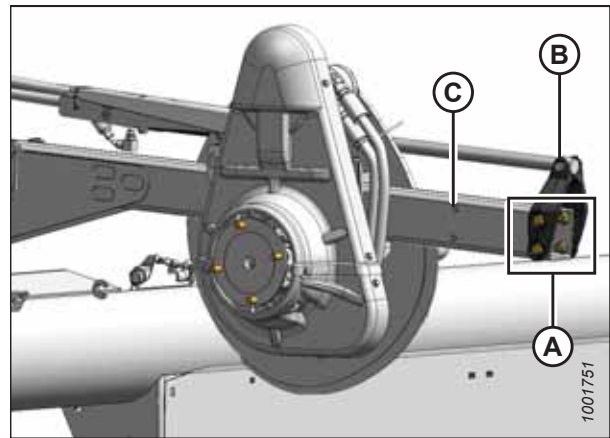

Figure 3.105: Forward Position
3. Remove four bolts (A) securing cylinder bracket (B) to the reel arm.
4. Position reel until bracket (B) lines up with desired position holes (C):
- Forward position, refer to Figure 3.105, page 92